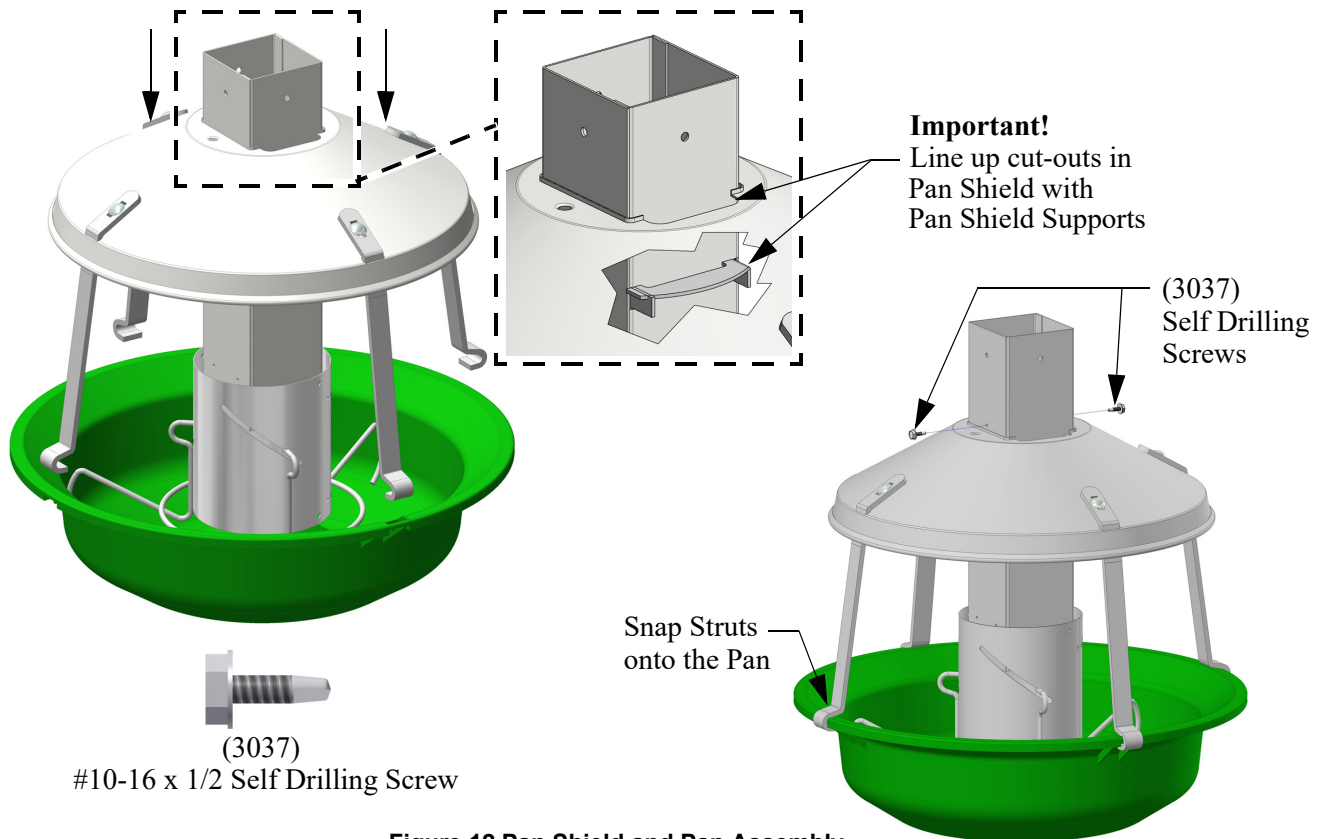

**Figure 10. Feed Level Tube and Ring**
2. Attach the Feed Level Tube (4194) to the Feed Level Ring (29320) as shown in (See **Figure 10**.) **Note the direction of the arrow on the side of the Feed Level Tube.**